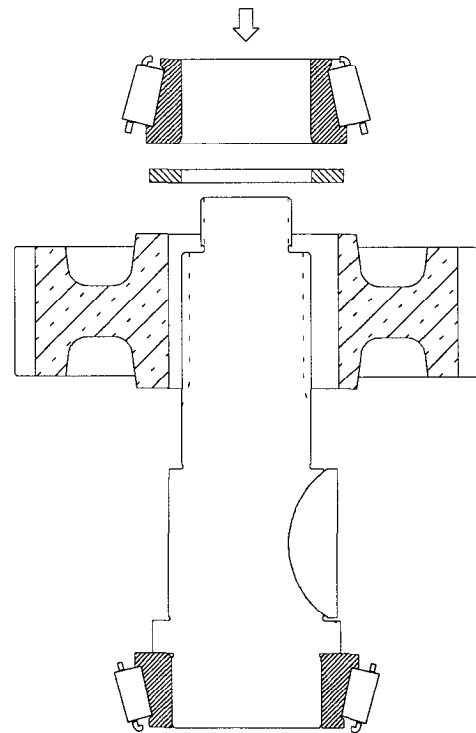

Fig. 42
3. Invert the input shaft and install the heated gear, spacer and the heated bearing cone. See Fig. 42.